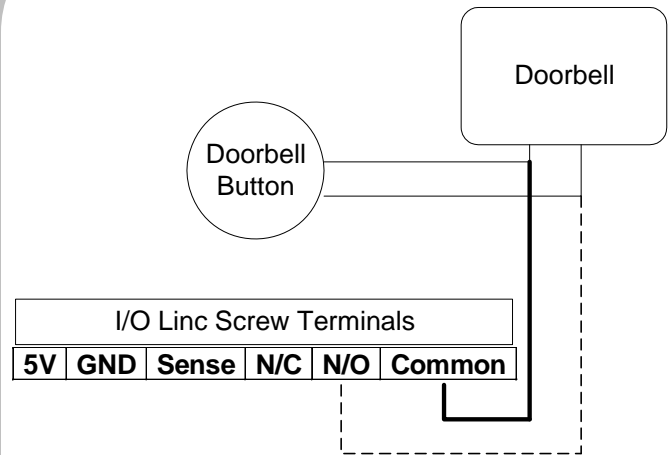

Figure 2
- 9) Connect one of your switch's wires to I/O Linc's Common terminal (see Figure 2)